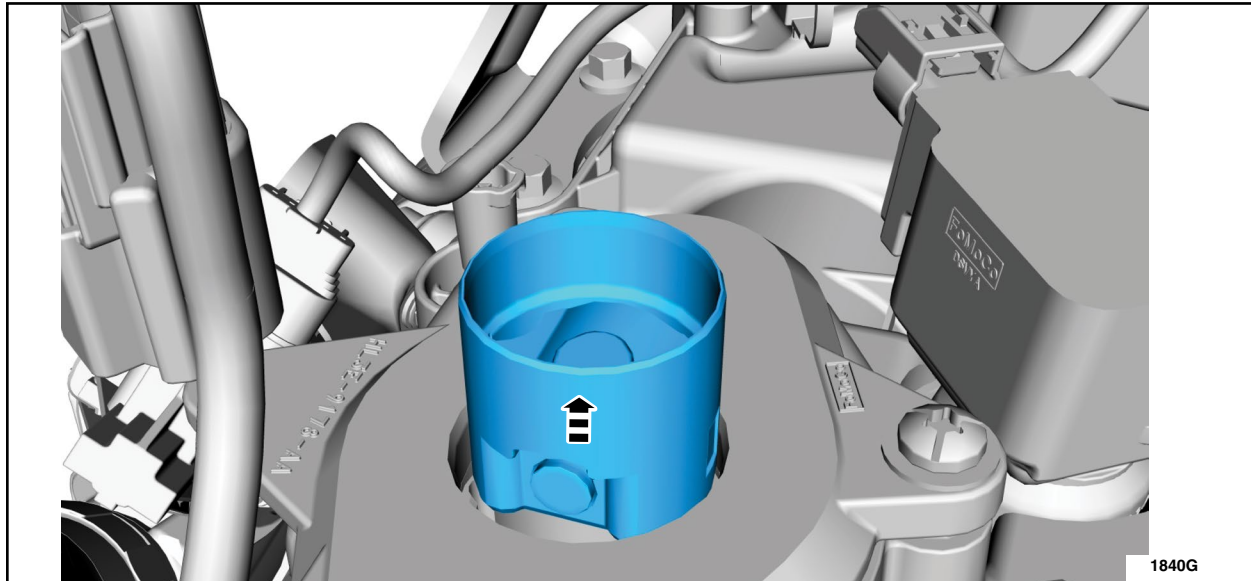

FIGURE 7
10. Remove the high-pressure fuel pump roller tappet and verify the drive lobe is at BDC (bottom dead center). See Figure 7.